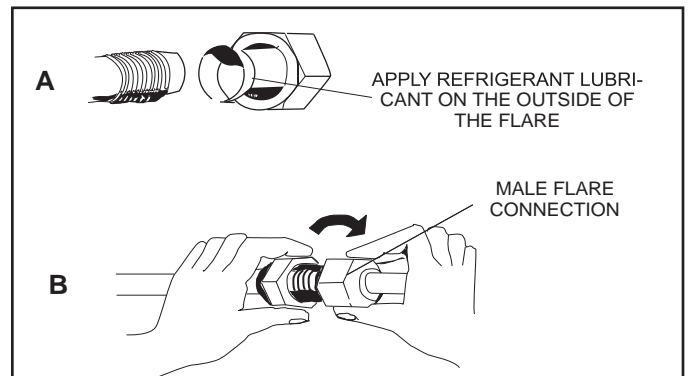
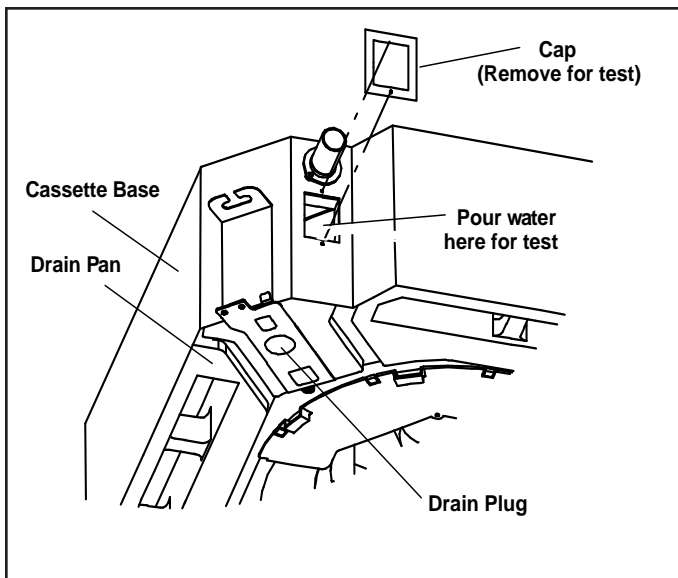

Figure 3. Making Connections (Male to Female Connection)
Figure 9. Test Condensate Drain
- If the unit is being installed in an application that includes a sheet rock (plasterboard) ceiling, it is required that an access panel be installed in a suitable location. This will also allow access for future maintenance (requirement of Lennox warranty program). Access is required during the commissioning process to test the condensate disposal system (See Figure 9), to check the electronic expansion valve and associated flare nuts (See Figure 3), and to check the local disconnect.
- Apply recommended HFC-410A refrigerant lubricant to the outside of the flared refrigerant lines (Figure 3-A).
6. Align the threaded connections with the flared refrigerant lines. Tighten the flare nuts lightly at first to obtain a smooth match (Figure 3-B).
6. After system installation is complete, the condensate drain line must be checked for leaks and the condensate pumps must be checked to ensure proper operation. This check is part of the commissioning sequence. Pour water into the evaporator drain pan to ensure proper condensate drainage. See Figure 9. If a leak is found, shut down power to the unit at once and do not restore power to the unit until the problem has been resolved.